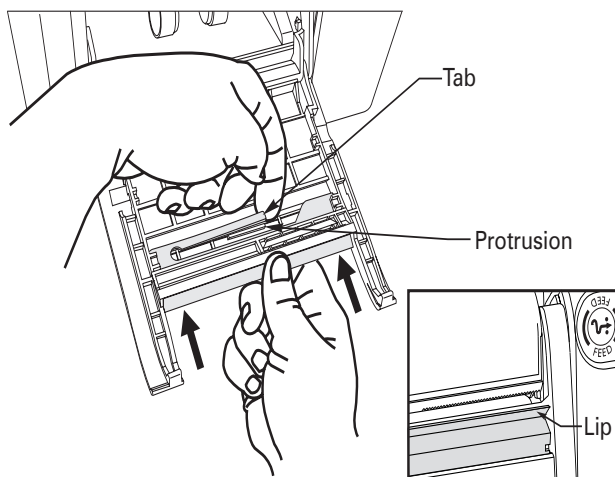

Figure 7
9. Refer to Figure 7. If it's not already in place, install the tear bar in the media access door. Gently lift the tab on the bar to move it over the protrusion on the door. Make sure the lip of the bar (inset, Figure 7) faces out of the printer.
9. The tear bar should *not* be installed in the printer. If it is, gently lift the tab on the bar to get it over the protrusion on the door (reverse the procedure shown in Figure 7). Then, pull the bar out of the printer.